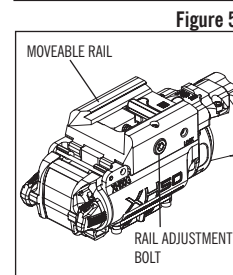

Figure 5
1. Adjust gap between stationary and movable Rail Guides by turning Rail-Adjustment Bolt clockwise or counterclockwise until gap is sufficiently wide to fit over weapon accessory rail (Figure 5).